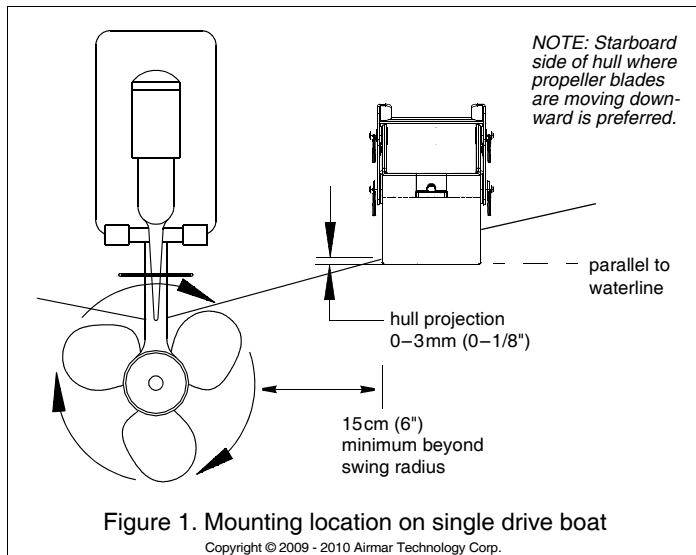
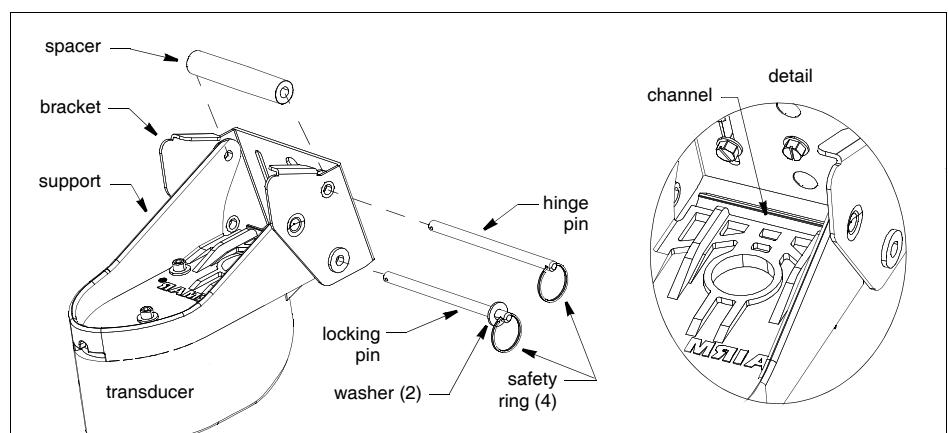
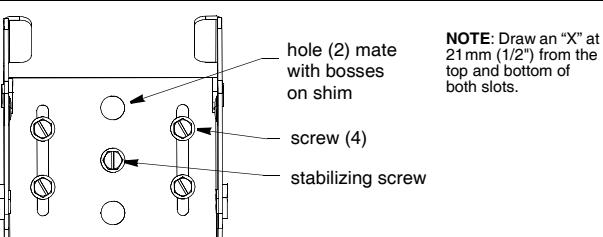

Figure 1. Mounting location on single drive boat
Figure 4. Attaching the transducer to the bracket
Figure 6. Screw locations on bracket
- Mounting on the side of the transom where the propeller blades are moving downward is preferred (see Figure 1).
- **Single drive**—Mount a minimum of 15cm (6") beyond the swing radius of the propeller (see Figure 1).
3. Attach a safety ring to one end of each pin (see Figure 4).
1. At the selected mounting location, position the assembly so the transducer projects 3mm (1/8") below the bottom edge of the transom (see Figure 1). Be sure any shim(s) is in place. (You may want to tape the shim(s) to the bracket temporarily.) With the transducer in the operational position, mark the bottom corners of the bracket.
2. Remove the transducer assembly from the bracket by removing the locking pin and the hinge pin (see Figure 4). Hold the bracket with any shim(s) in place against the transom at the marked location. Draw an "X" at 12mm (1/2") from the top and the bottom of each slot (see Figure 6).
1. Apply marine sealant to the threads of four of the hex-washer-head screws to prevent water seepage into the transom. Being sure any shim(s) is in place, screw the bracket to the hull using a socket wrench (see Figure 4). *Do not tighten the screws at this time.*
5. Using the vertical adjustment space in the bracket slots, slide the assembly up or down until the bottom inside corner of the transducer projections 0–3mm (0–1/8") below the bottom of the hull (see Figure 1). When you are satisfied with the position of the transducer, tighten the four bracket screws. For clear access to the screws, remove the transducer assembly from the bracket (see Figure 4). *When reattaching, be sure to include the spacer.*
- b. Move the transducer deeper into the water in increments of 3mm (1/8") (see Figure 1).
1. Prevent the bracket from moving out of position using the remaining hex-washer-head screw. Drill the hole for the stabilizing screw through the center hole of the bracket, any shim(s), and the hull (see Figure 6).
3. Fasten the stabilizing screw into place with a socket wrench. For clear access to the screw, remove the transducer assembly from the bracket (see Figure 4). *When reattaching the transducer, be sure to include the spacer.*